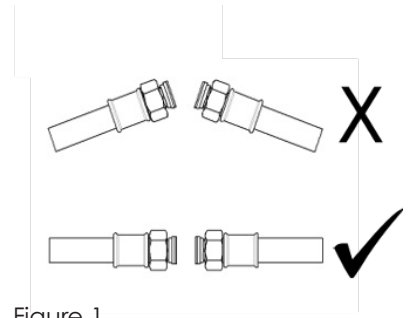

Figure 1
1. Ensure that the connecting pipes are aligned (Figure 1).